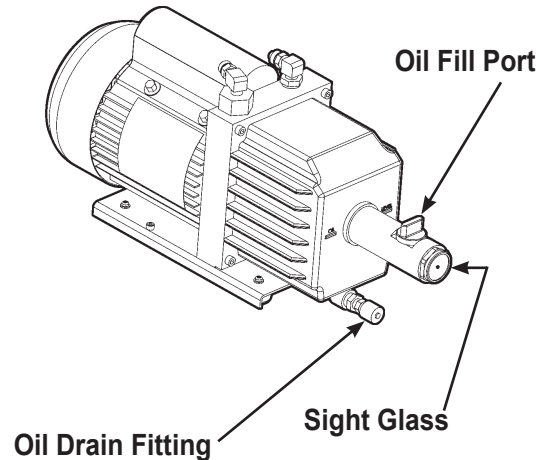

Figure 16
3. Refer to Figure 16, and remove the brass plug from the vacuum pump's oil fill port. (The pump drains faster when vented.)
5. Attach the flexible tube and cap to the oil bottle; pour five (5) ounces of vacuum pump oil into the fill port.